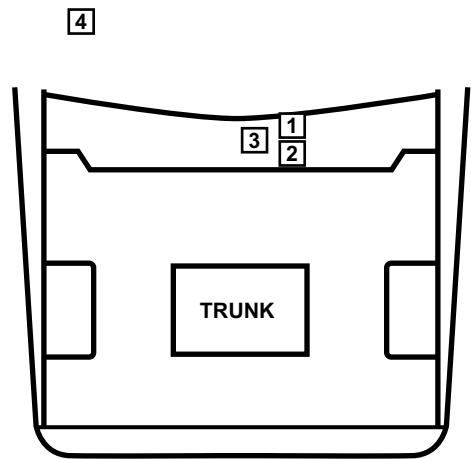

Figure 15-7 XT and XT6 common connector locations
- “XT and XT6 common connector locations” on page 179 (Table 15-7, Figure 15-7)